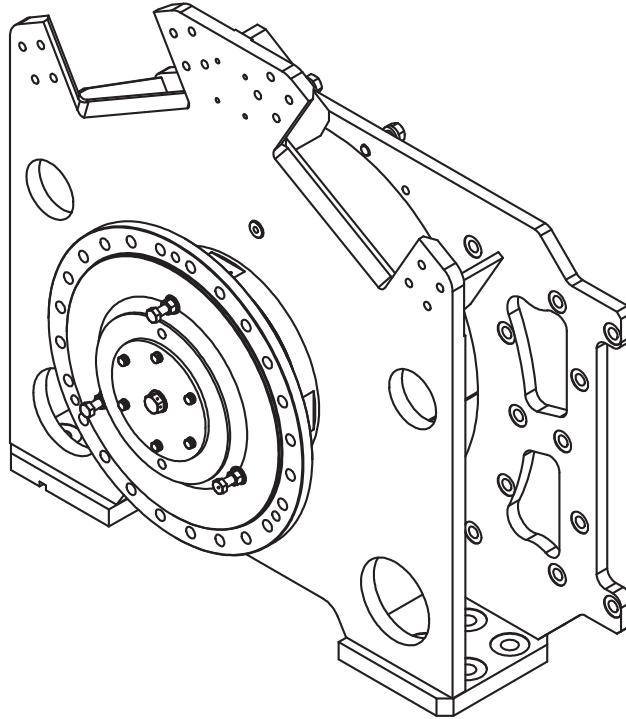

Figure 6: DS Shaft Assembly (with Drum Removed)
14. Install and torque bolts and lock washers (24) on the DS of the drum. (See Figure 6 on page 8).